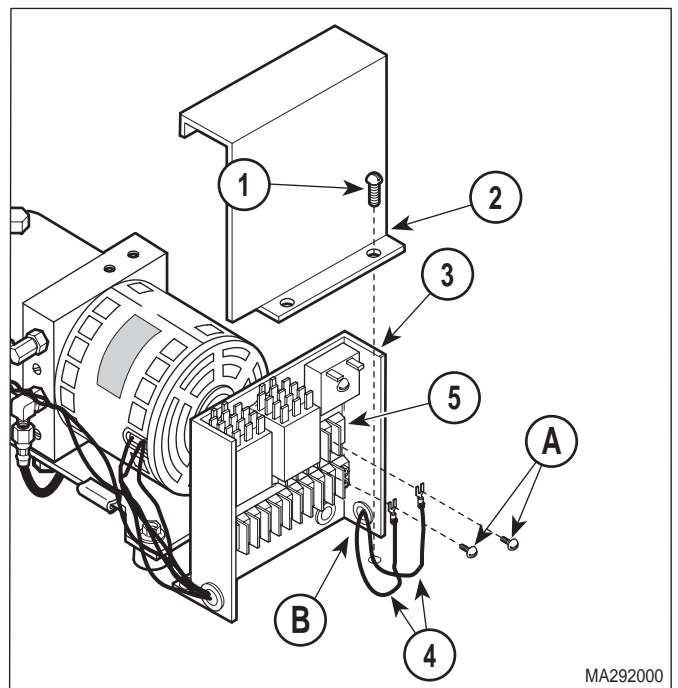

Figure 4-14. Tilt Cylinder Wire Disconnection / Connection
- (1) If possible, lower TILT DOWN function all the way down.
- (2) Unplug power cord from wall outlet.
- (3) Remove motor cover assembly (Refer to para 4.2).
- (4) Remove two screws (1, Figure 4-14) and control cover (2) from control panel (3).
- (2) Connect power manifold (9) to base of tilt cylinder (8).
- (3) Connect return manifold (7) to rod end of tilt cylinder (8).
- (4) Secure wire harnesses and hose assemblies to tilt cylinder (8) with cable ties (A).
- (5) Route tilt cylinder wires (4, Figure 4-14) thru table.
- (6) Feed tilt cylinder wires (4) thru wire hole (B) in control panel (3).
- (7) Connect two tilt cylinder wires (4) to terminal block (5) and secure by tightening two terminal screws (A).
- (8) Install control cover (2) on control panel (3) and secure with two or six screws (1).
- (9) Install any cable ties (A) which were removed.
- (10) Plug power cord into wall outlet.
- (11) Lower TILT DOWN function all the way down.
- (12) If seat section *is not* level with floor when the TILT DOWN function *is* completely lowered, perform steps 13 thru 15. If seat section is level when the TILT DOWN function is completely lowered, go to step 16.